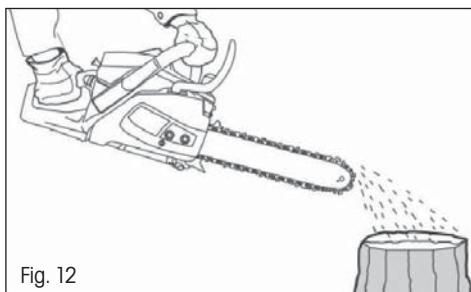

Fig. 12
4. Before you start, check the oil supply: switch on the chainsaw and hold it over suitable bedding. If it is sufficiently lubricated, a light trail of dripping oil will form (fig. 12).